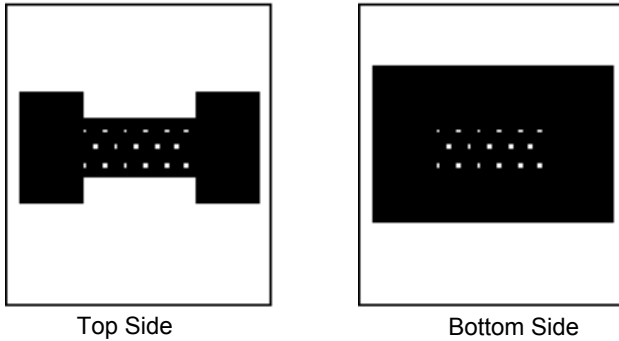
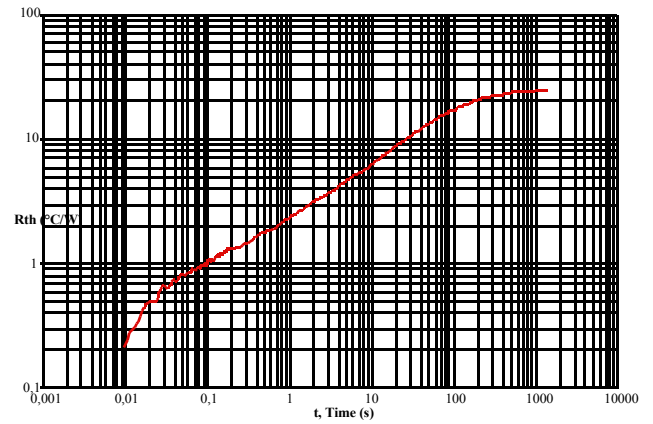

Figure 19. PCB Test Layout
Figure 20. 33886 Thermal Response
**Example** Characterization on a double-sided PCB: bottom side area of copper is  $7.8 \text{ cm}^2$ ; top surface is  $2.7 \text{ cm}^2$  (see Figure 19); grid array of 24 vias 0.3 mm in diameter.
Figure 20 shows the thermal response with the device soldered on to the test PCB described in Figure 19.